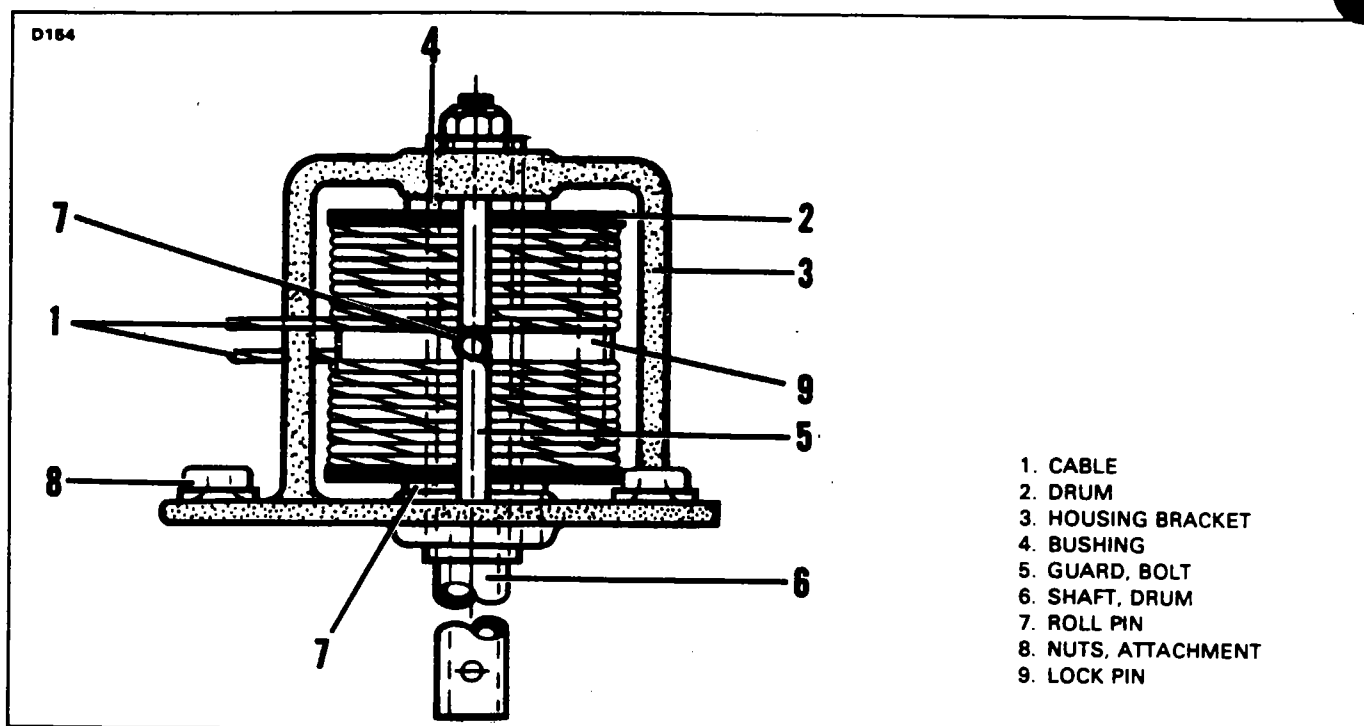

Figure 27-9a. Wrapping Control Pedestal Aileron Trim Drum
WRAPPING CONTROL PEDESTAL AILERON TRIM DRUM. (Refer to Figure 27-9a.)
8. Insert the drum in the housing bracket, position the drum and route the cables from the assembly as shown in Figure 27-9a.